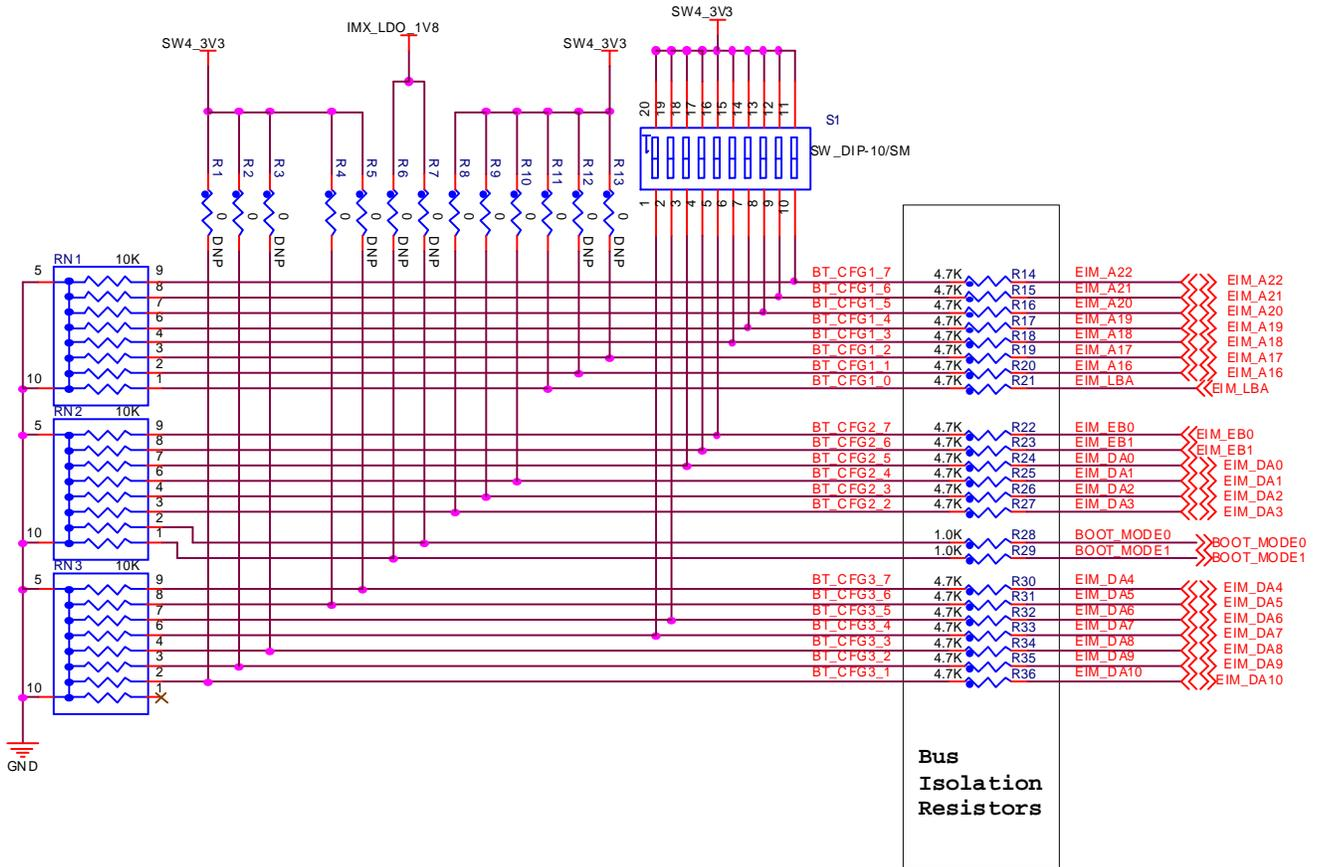

Figure 1-1. Boot Configuration Bus Isolation Resistors
3. When EIM boot signals are used as the system's EIM signals or GPIO outputs after boot, use a passive resistor network to select the desired boot mode for development boards.	Because only resistors are used, EIM bus loads can cause current drain, leading to higher (false) supply current measurements. Each EIM boot signal should connect to a series resistor to isolate the bus from the resistors and/or switchers. See Figure 1-1 for the implementation. Each configured EIM boot signal sees either a 14.7 kΩ pull-down or a 4.7 kΩ pull-up. For each switch-enabled pulled-up signal, the supply is presented with a 10 kΩ current load. The i.MX53 does not have on-chip keeper circuits on the external boot inputs, allowing freedom to size boot resistors larger than some previous i.MX devices. Production product is booted from the on-chip fuses and does not employ these external boot mode resistors.
Figure 1-1 shows the boot configuration bus isolation resistors referenced in recommendation 3.